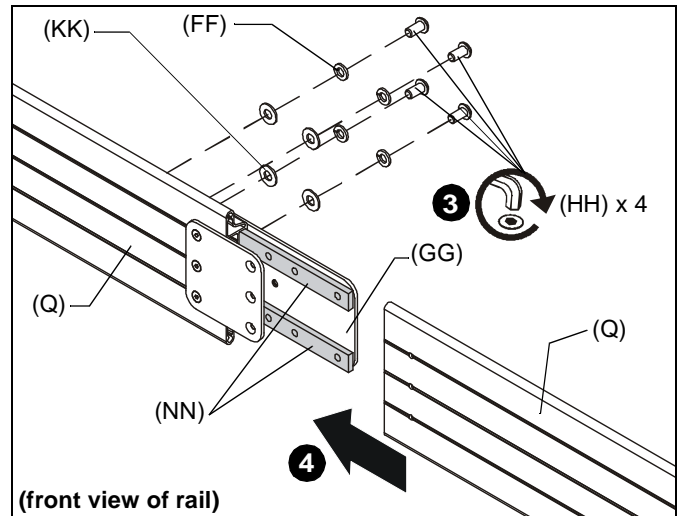

Figure 12
3. Additionally fasten connector plate (GG) using four 5/16 x 5/8" button head cap screws (HH), four 5/16" split washers (FF), and four friction washers (KK). (See Figure 12)
4. Slide second section of mounting rail (Q) over tie bars (NN) and bring it flush to first section of mounting rail. (See Figure 12)